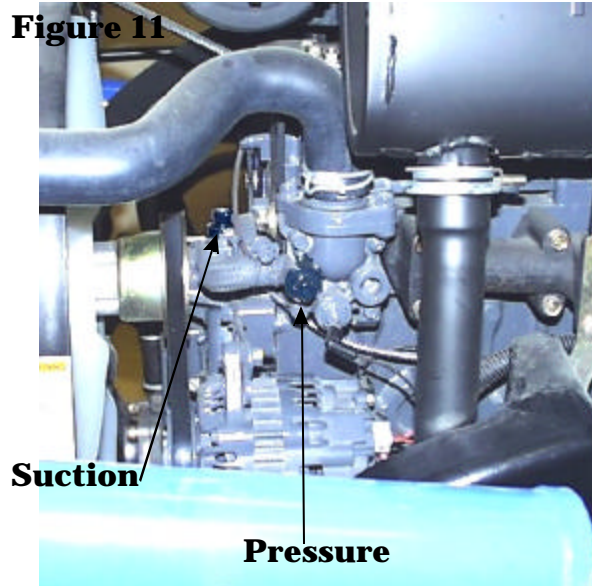

Figure 10
13. Repeat steps 11 and 12 for the right side, and use Figure 10.